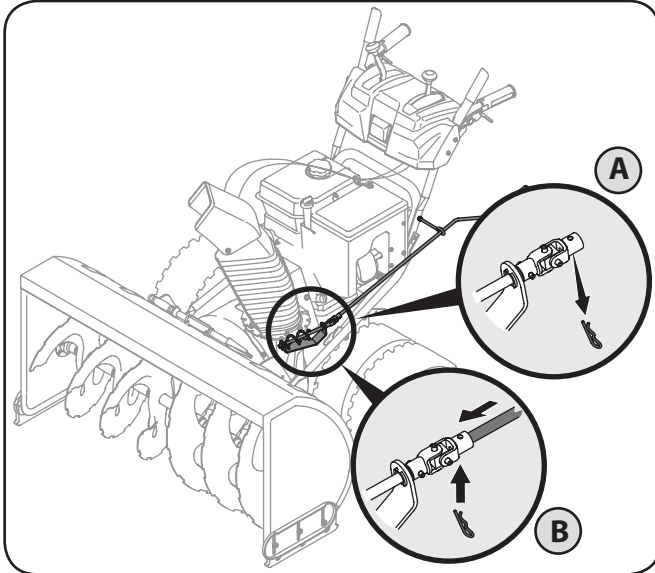

Figure 3-4
1. Remove the hairpin clip from the spiral control as shown in A of Fig. 3-4.
2. Insert the chute directional control rod into the fitting on the spiral control as seen in B of Fig. 3-4.